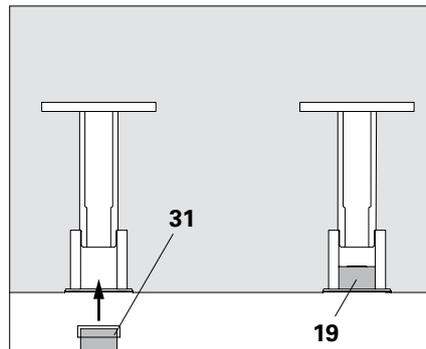

Fig. A5.11a
2. Mix 2-component Repoxal Glue (31) according to the manufacturer's instructions.
3. Submerge the Plug FRC Ø 32 (19b) for the Anchor Positioning Stud M24 or Ø 40 (19a) for the Threaded Cone M24 on one side into the 2-component Repoxal Glue (31).
4. Tap the Plug FRC (19) into the anchor hole using a rubber-headed hammer until flush with hole.
5. Remove adhesive residue with a spatula. (Fig. A5.11a + A5.11b)